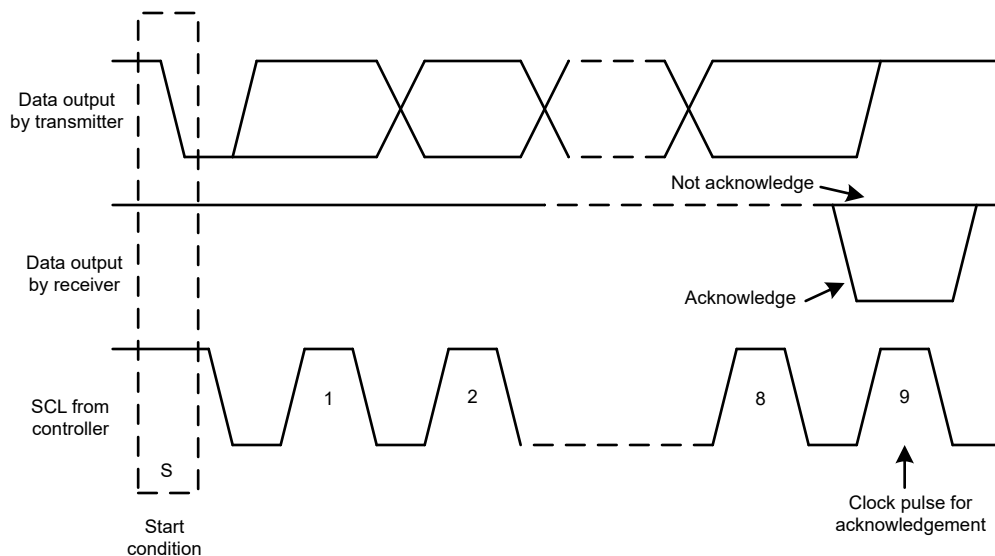
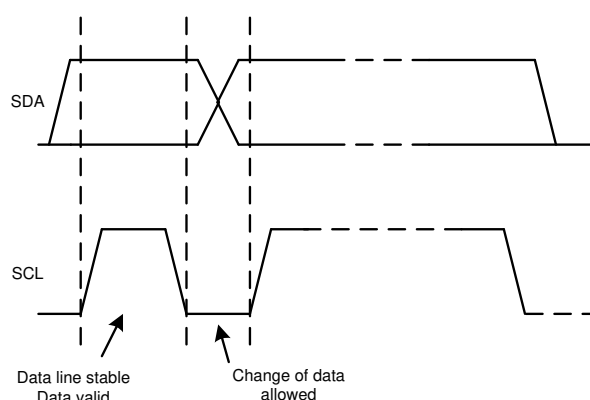

Figure 6-19. Acknowledge and Not Acknowledge on the I²C Bus
Figure 6-21. Bit Transfer on the I²C Bus
Other than specific timing signals, the I²C interface works with serial bytes. At the end of each byte, a ninth clock cycle generates and detects an acknowledge signal. An acknowledge is when the SDA line is pulled low during the high period of the ninth clock cycle. Figure 6-19 depicts a not-acknowledge, when the SDA line is left high during the high period of the ninth clock cycle.
2. The controller then generates the SCL pulses, and transmits the 7-bit address and the read/write direction bit (R/\overline{W}) on the SDA line. During all transmissions, the controller makes sure that data are valid. Figure 6-21 shows that a valid data condition requires the SDA line to be stable during the entire high period of the clock pulse. All devices recognize the address sent by the controller and compare the address to the respective internal fixed address. Only the target device with a matching address generates an acknowledge by pulling the SDA line low during the entire high period of the 9th SCL cycle (see also Figure 6-19). When the controller detects this acknowledge, the communication link with a target has been established.